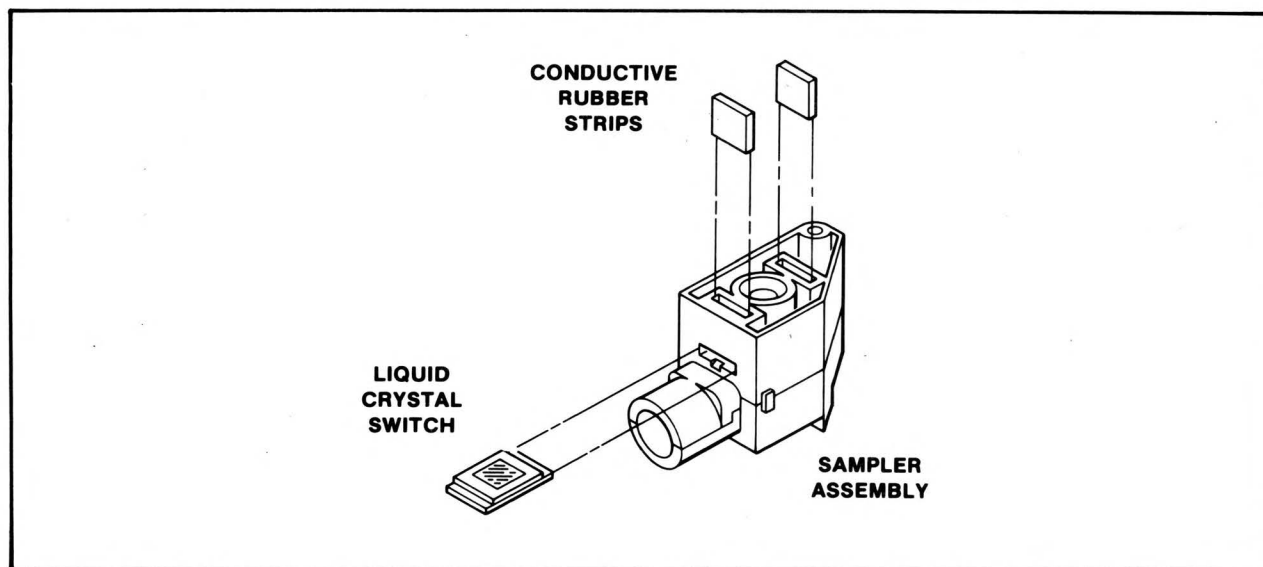

Figure 8-13. Liquid Crystal Removal
- a. Remove the liquid crystal from the sampler assembly as shown in Figure 8-13 below: